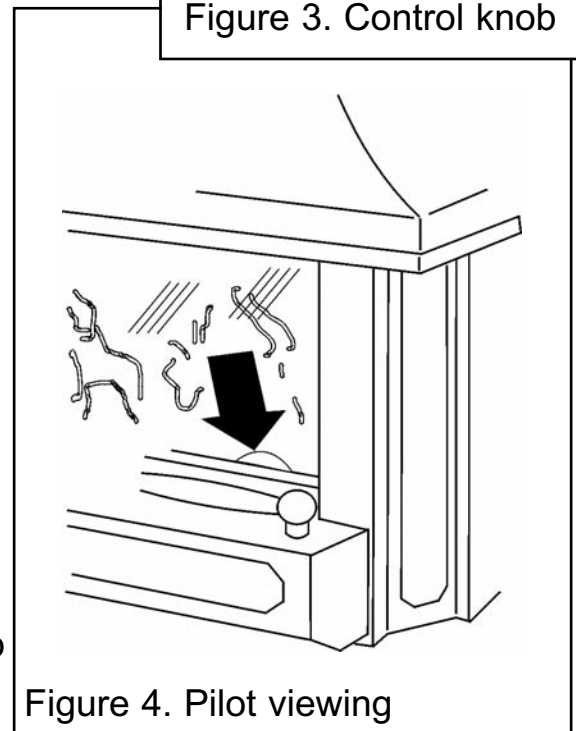

Figure 4. Pilot viewing
- Depress the control knob. While keeping it depressed, SLOWLY turn to IGN position. Turning the control should normally cause two consecutive sparks to occur which should ignite the pilot gas. A click should be heard while turning each time a spark is generated. The pilot flame can be seen by looking through the gap at the front of the right side front coal (See figure 4).